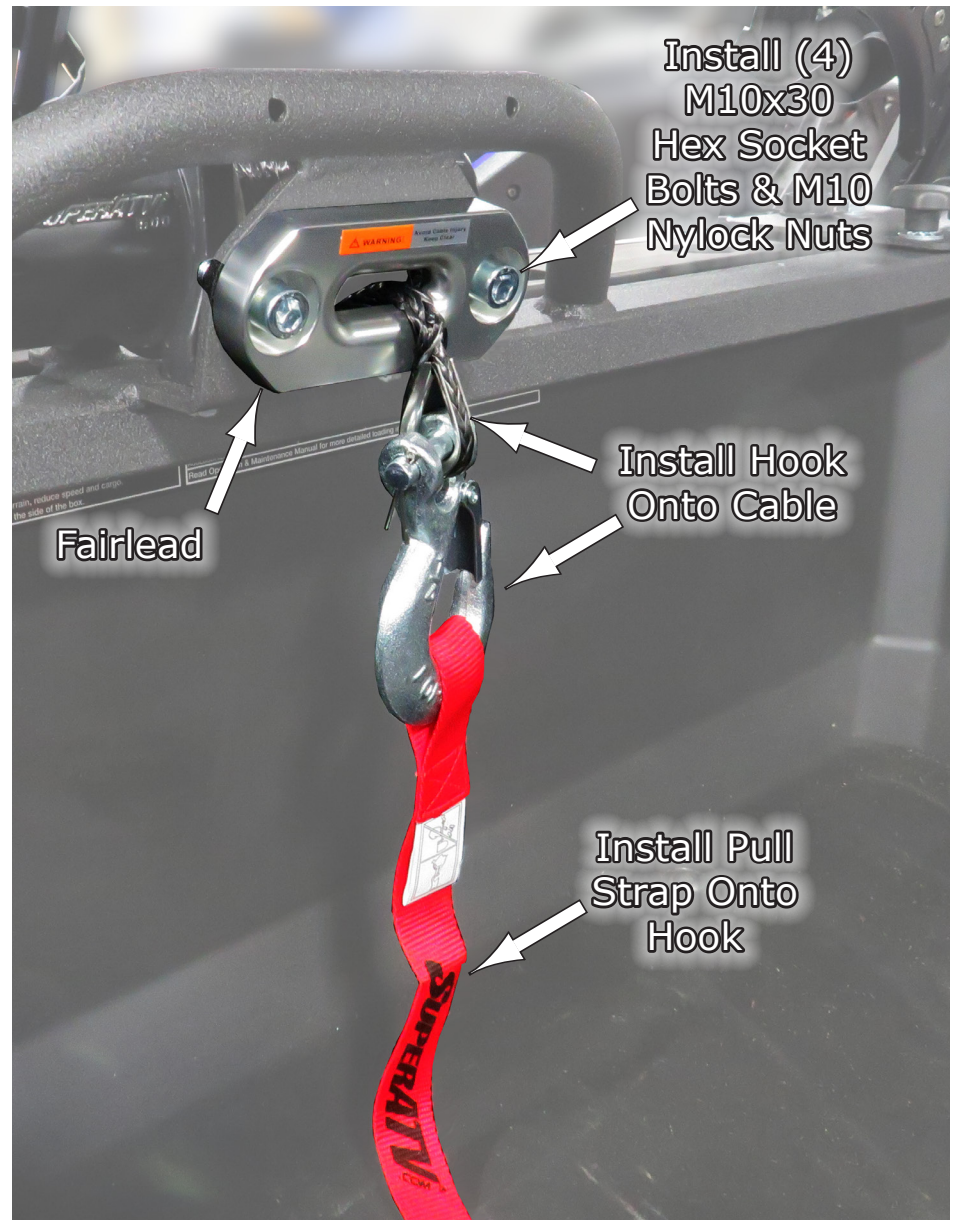

Fig.3
3. Then install the **Fairlead** using the **M10x30 Hex Socket** bolts and **M10 Nylock Nuts** from your Winch Kit. Then install the Hook and Pull Strap. See **Fig.3**.